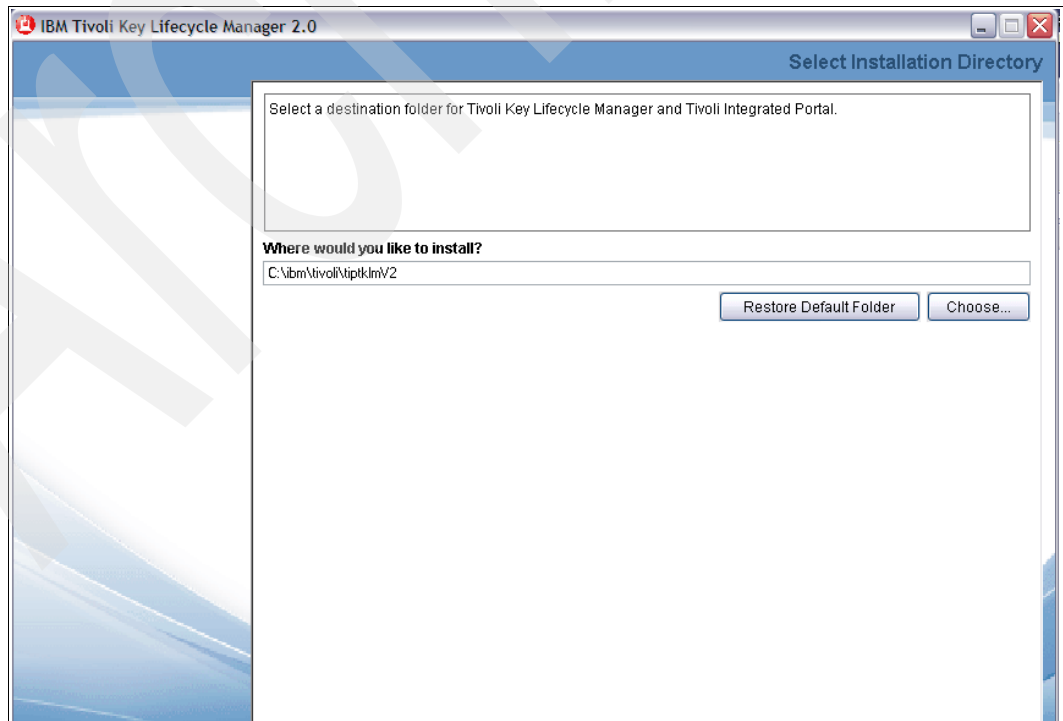

Figure 6-10 TKLM\_v2\_TIP\_inst
1. Follow the instructions accompanying your media to start TKLM v2 Windows installation. The first screen ask for a language selection (Figure 6-10). Make your choice in drop-down box and click **OK**.
10. A complete installation path is required for TKLM and TIP installation files. Make the appropriate selection and click **Next** (Figure 6-10).